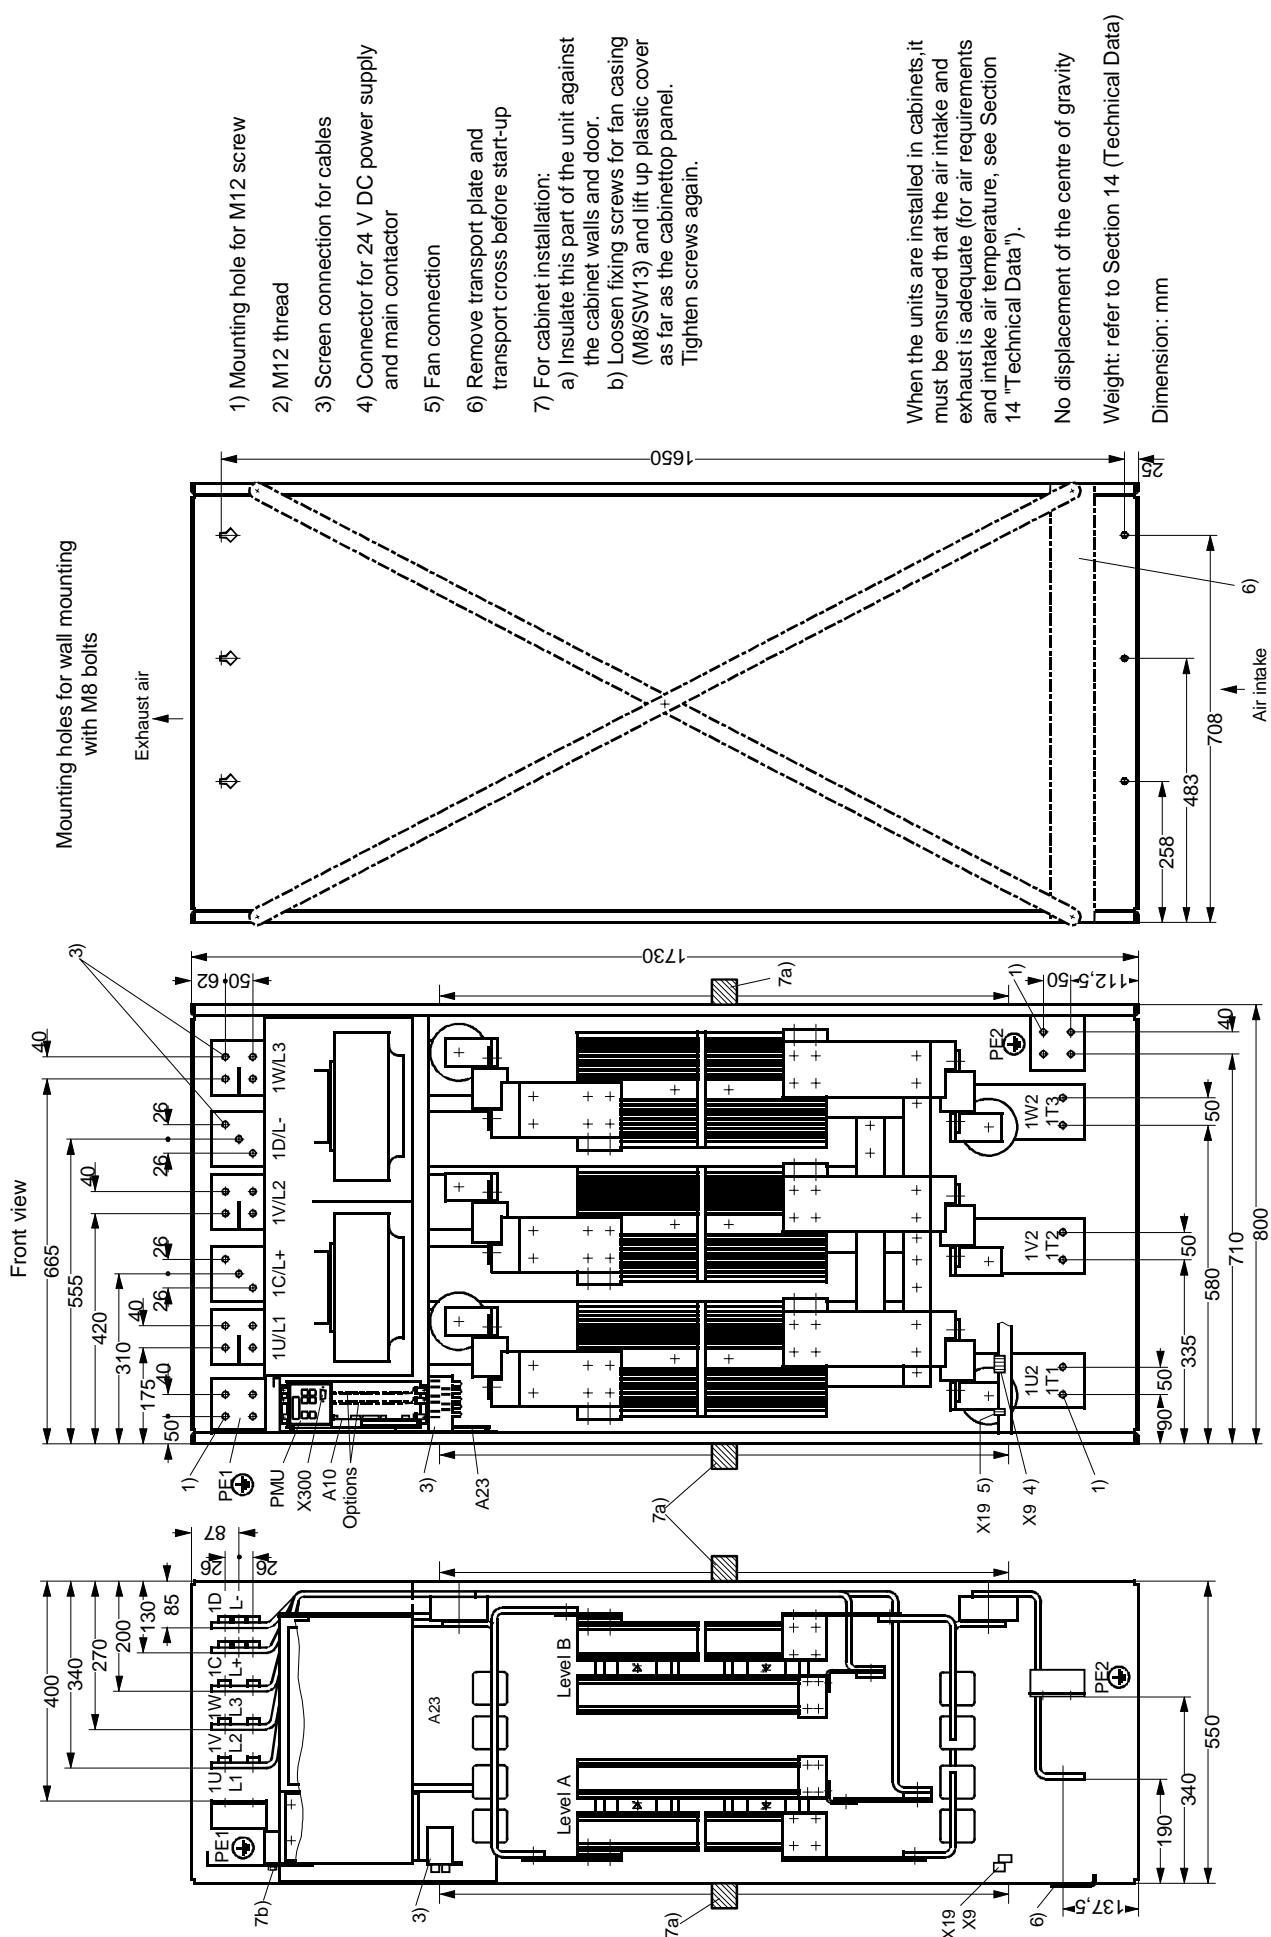

Figure 2.5 Dimension drawing, size  $K$
- ◆ dimension drawing (Figure 2.5 for size K)